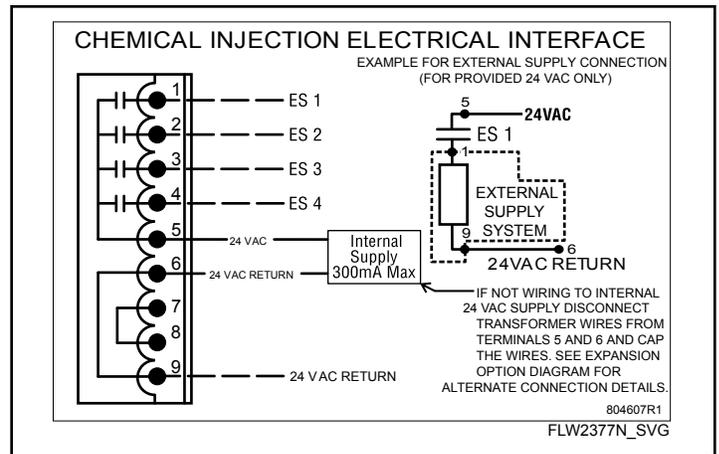

Figure 16
- Refer to supply injection system instructions and label inside washer junction box cover (*Figure 16*) for electrical connection.